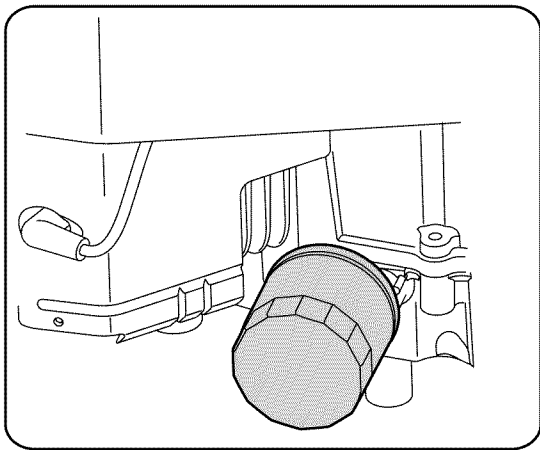

Figure 18
- From the left side of the engine, remove the oil filter using an automotive type oil filter wrench (See Figure 18). Wipe the filter adapter with a clean cloth.